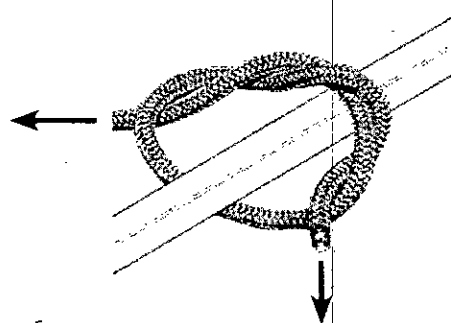

Figure 5
10. a. Tie one end of the provided 9' rope to the link welded onto the stabilizer bar, just in front of the tree hugger. **Be sure your double knot is secure. SEE FIGURE 5.**
b. Tie one end of each of the provided 15' ropes to the square tube side rails, just in front of the welded on tree blades. **Be sure your double knots are secure. SEE FIGURE 5.**